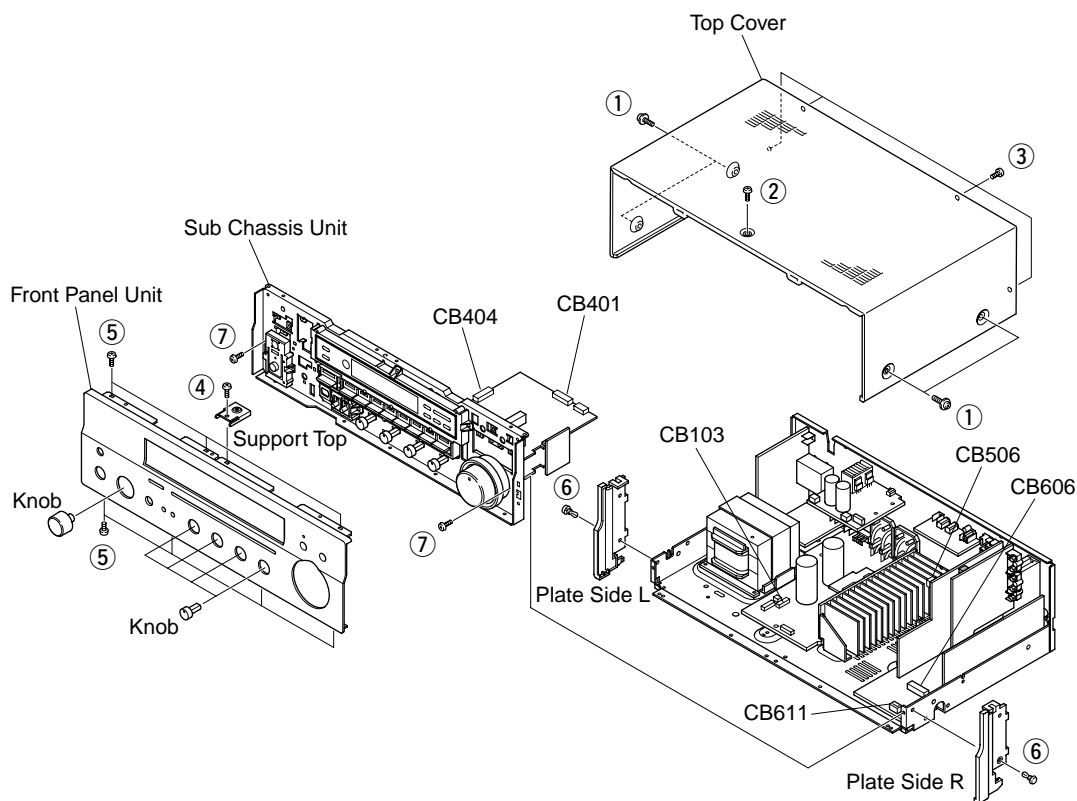

Fig. 1
- Remove 4 screws ( ① ), 1 screw ( ② ) and 4 screws ( ③ ). (Fig. 1)
- Slide the Top Cover rearward to remove it. (Fig. 1)
- Remove 1 screw ( ④ ) and then remove the Support Top. (Fig. 1)
- Remove 7 screws ( ⑤ ) and then remove the Front Panel Unit. (Fig. 1)
Remove 2 push rivets ( ⑥ ) and then remove the Plate Side L/R. (Fig. 1)
- Remove 2 screws ( ⑦ ) and then slide the Sub Chassis Unit forward. (Fig. 1)
- Remove connectors CB103, CB401, CB404, CB506, CB606 and CB611 and then remove the Sub Chassis Unit. (Fig. 1)